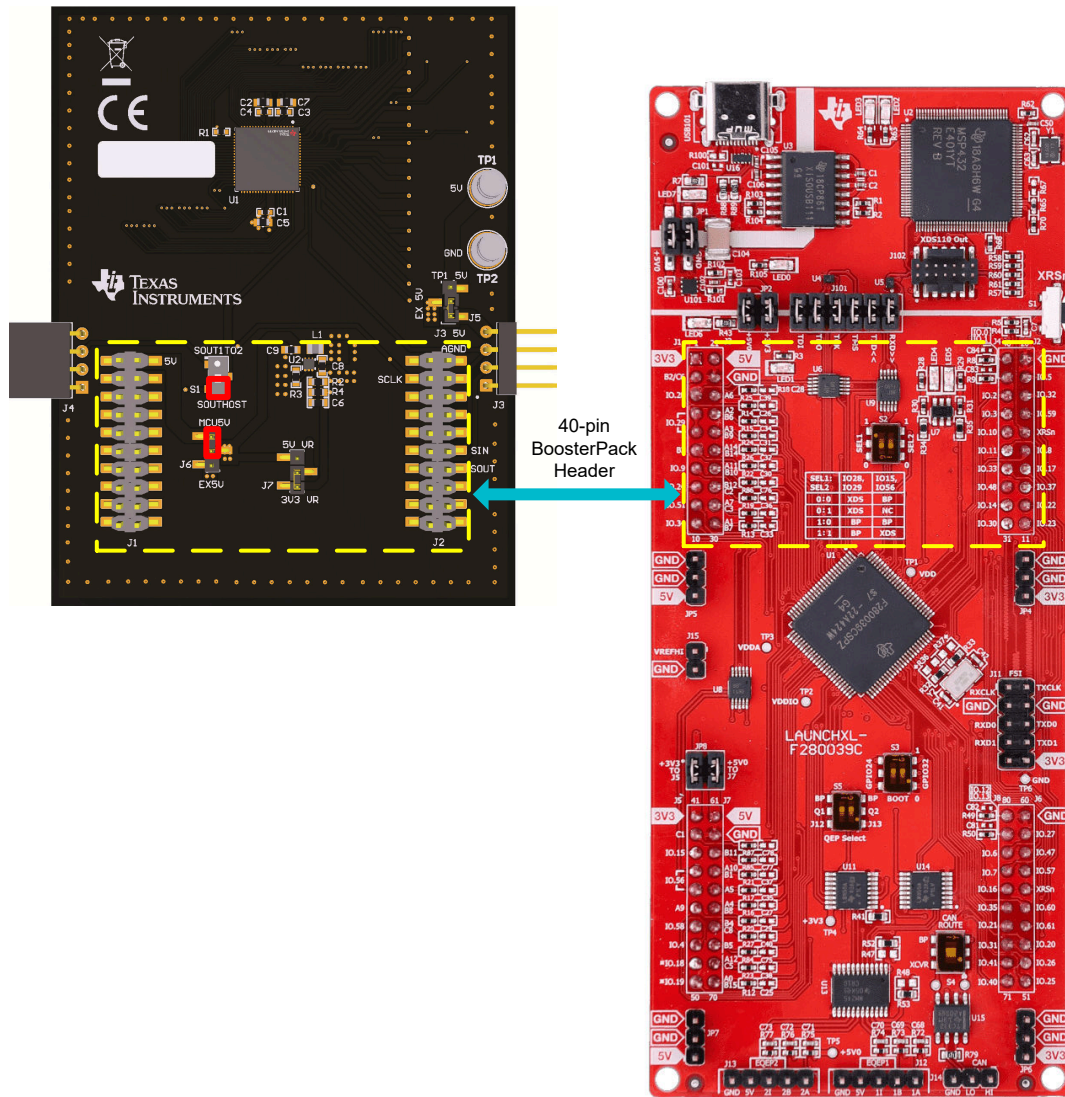

Figure 2-3. Single LP5891EVM Connected with the TMS320F280039C LaunchPad
- b. Put the J6 jumper on *MCU5V* and the middle, and set the switch S1 towards *SOUTHOST*, which are marked with red boxes in Figure 2-3.
- c. Connect BoosterPack connectors (J1, J2) on the LP5891EVM with the TMS320F280039C LaunchPad, the connection method is shown in Figure 2-3.